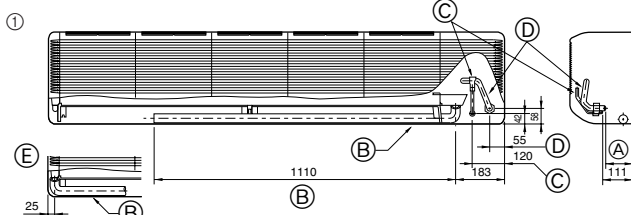

Fig. 4-2
- Position of refrigerant and drain piping (Fig. 4-2)